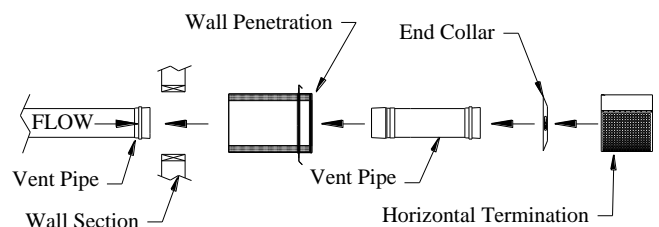

Fig 13. (Wall Penetration)
2. From the outside, position the Wall Penetration into the hole (Fig. 13).